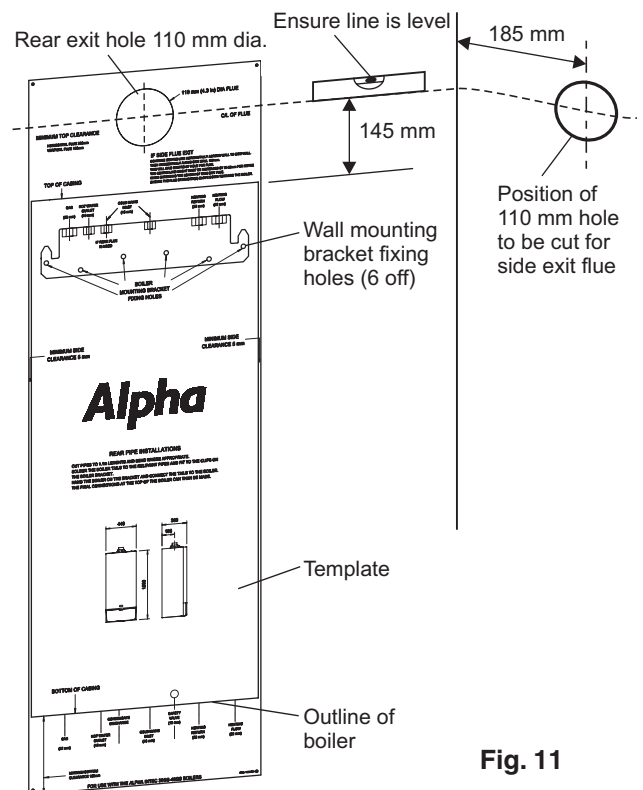

Fig. 11
4.3 PREPARE THE WALL - Fig. 11
4.4 FIT THE BOILER - Refer to Fig. 11